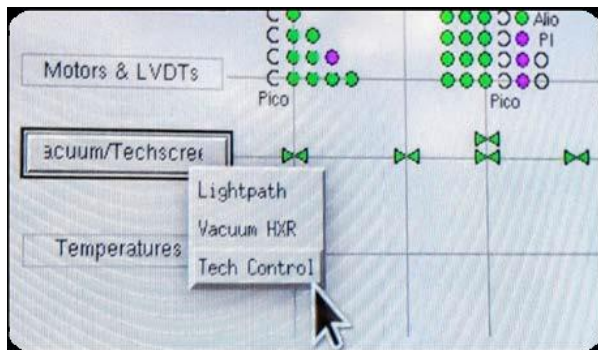
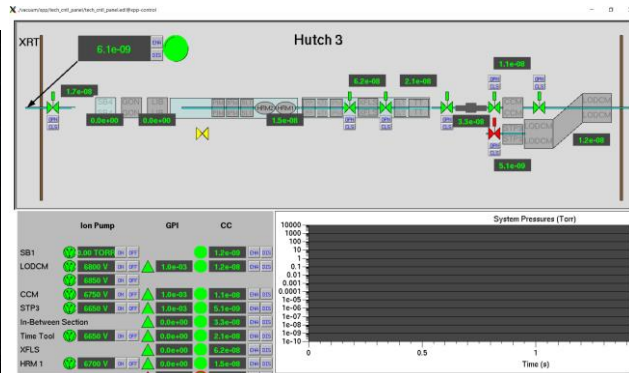

Fig 1
fig 2
STEP 04: Click the "XPP Home" icon (or type XPPHOME in any terminal window) on the hutch Linux computer to launch the main control panel. Click on the Vacuum/Techscreen button, then select Tech Control (Fig 1) to open the vacuum system control panel (Fig 2).